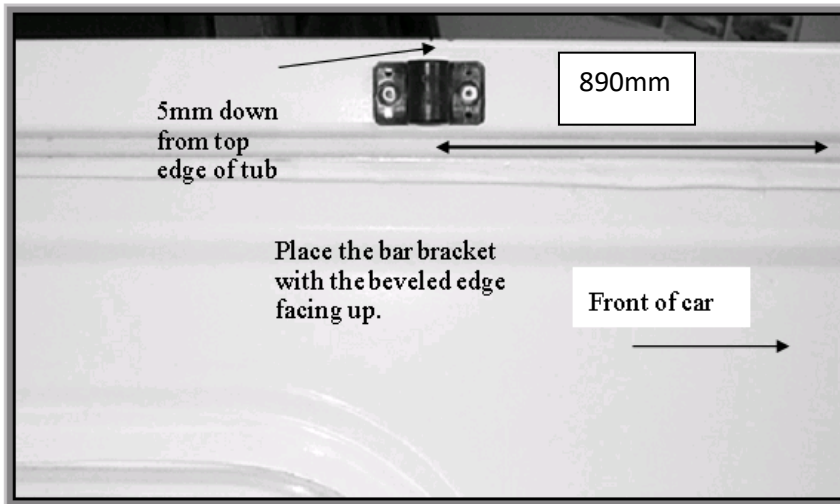

Figure 2: Placement of bar bracket
7. To fit the bar brackets, measure 890mm back from the inside front edge at the top of the tub and place them as shown in Figure 2. (5mm down from top edge of tub) Drill and rivet using two large rivets for each Bar Bracket. Install the support bar according to the supplied instructions.